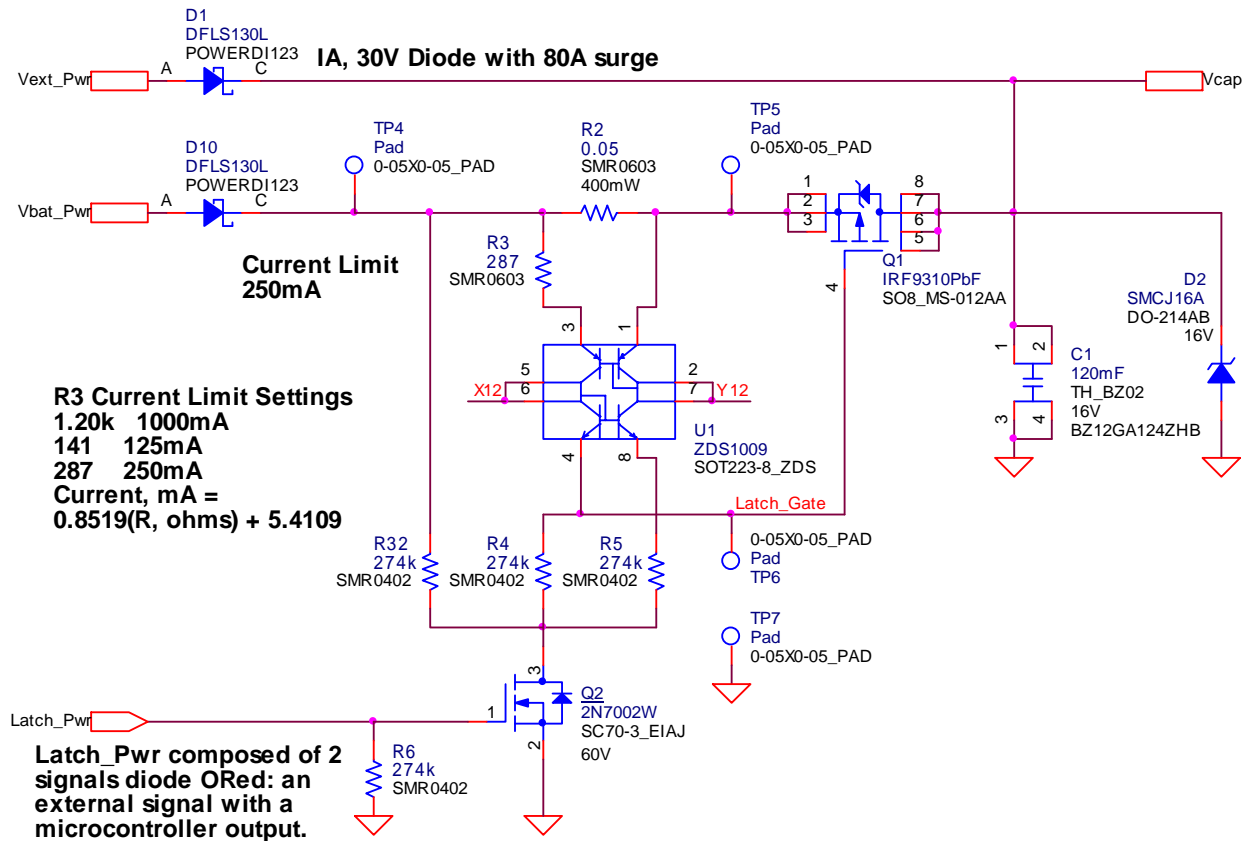

Figure 16. In-Rush Current Limit as Implemented Using a Current Mirror Circuit
Inrush current charging the large capacitance of the capattery needs to be limited, so we used a circuit that controls the gate voltage on a MOSFET based upon voltage across a current-sense resistor. Rather than tolerate the high voltage drop and accompanying power loss associated with driving the base-emitter voltage of a bipolar transistor with the sense resistor, we used a Zetek ZDS1009 (9) complementary current-mirror device to sense a much lower voltage across a smaller-value resistor as shown in Figure 16. Because the current-sense resistor can be a much lower resistance, power dissipation is decreased and a physically smaller, lower power rating resistor can be used resulting in smaller circuit volume. The permissible current is increased by decreasing the value of resistor R3. Decreasing the sense resistor R2 value to increase the current limit, as done in the classic circuit approach, would also work but is less flexible.